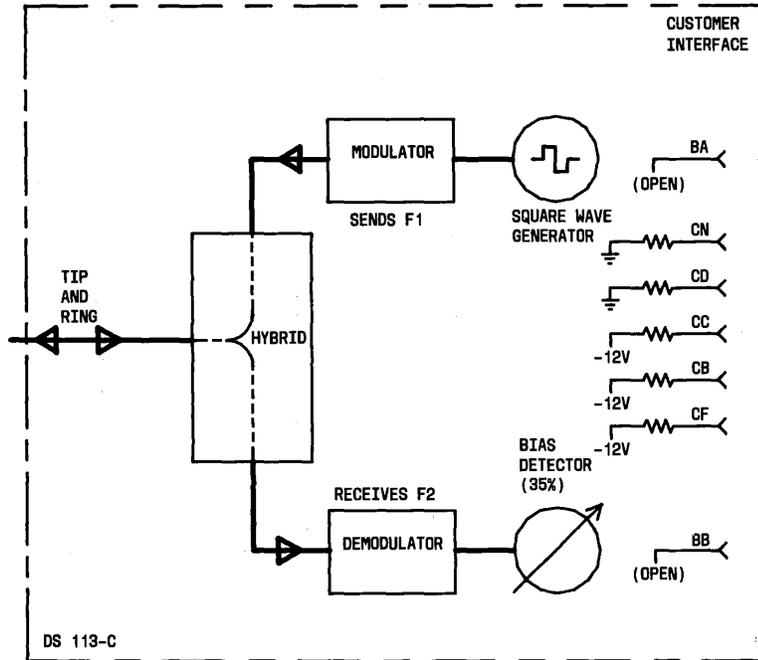

Fig. 2—Self Test Mode—Simplified Block Diagram
2.07 Depressing the ST button causes the following to occur (Fig. 2):
2.09 To perform an end-to-end self test (Fig. 2), a call is set up to a DS 100-type which operates in the answer mode equipped with a self